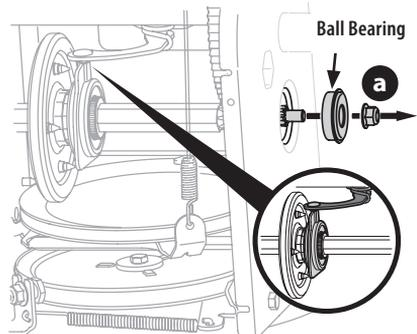

Figure 87
5. Carefully remove hex nut (a) which secures hex shaft to frame and lightly tap the shaft's end to dislodge ball bearing from right side of frame (Figure 87).
**NOTE:** Make sure shift lever pin is in place in bearing housing (Figure 87 inset).